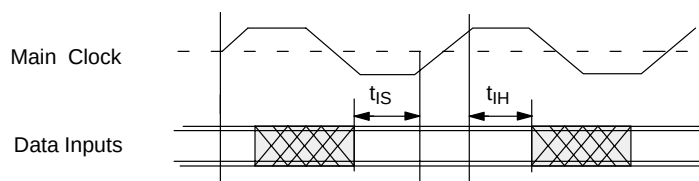

Fig. 4–23: Picture bus input timing
4.6.4.8. Picture Bus Input (see Fig. 4–23)